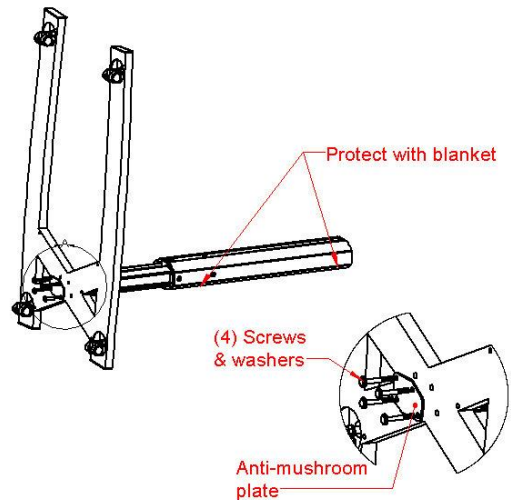

Figure 8
5.6 Remove the base. Place unit on a soft surface such as a blanket or carpet. Remove four bolts, washers & Anti-mushroom plate (Figure 8).
5.10 Attach the X-Base to the column using the screws, washers & anti-mushroom plate removed in step 5.6 (Figure 8).